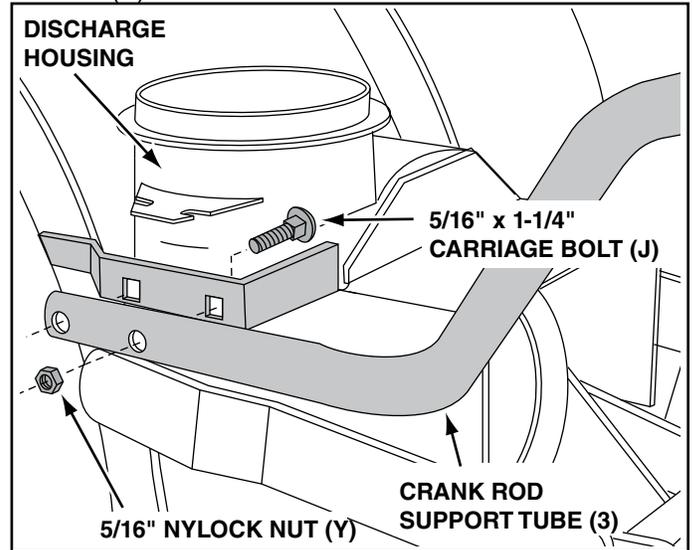

FIGURE 49 LEFT SIDE VIEW
STEP 50: (SEE FIGURE 49)
- Assemble the crank rod support tube (3) to the bracket on the left side of the discharge housing using two 5/16" x 1-1/4" carriage bolts (J), and 5/16" nylock nuts (Y).